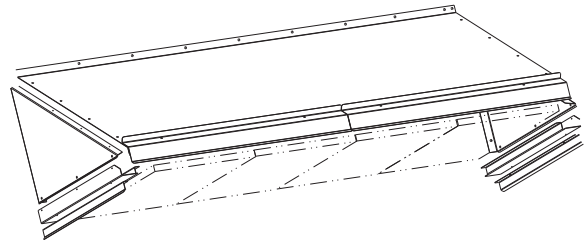

Fig. 5 - Manual Damper
11. Affix the angles to the block off panels (2) with the screws supplied. The sliders should be assembled so they do not extend beyond the block off panels. Install into the hood. (See Fig. 5.)
16. Move the manual dampers into the appropriate position and lock into place using the screws mounted in the adjustment slots. (See Fig. 5.)